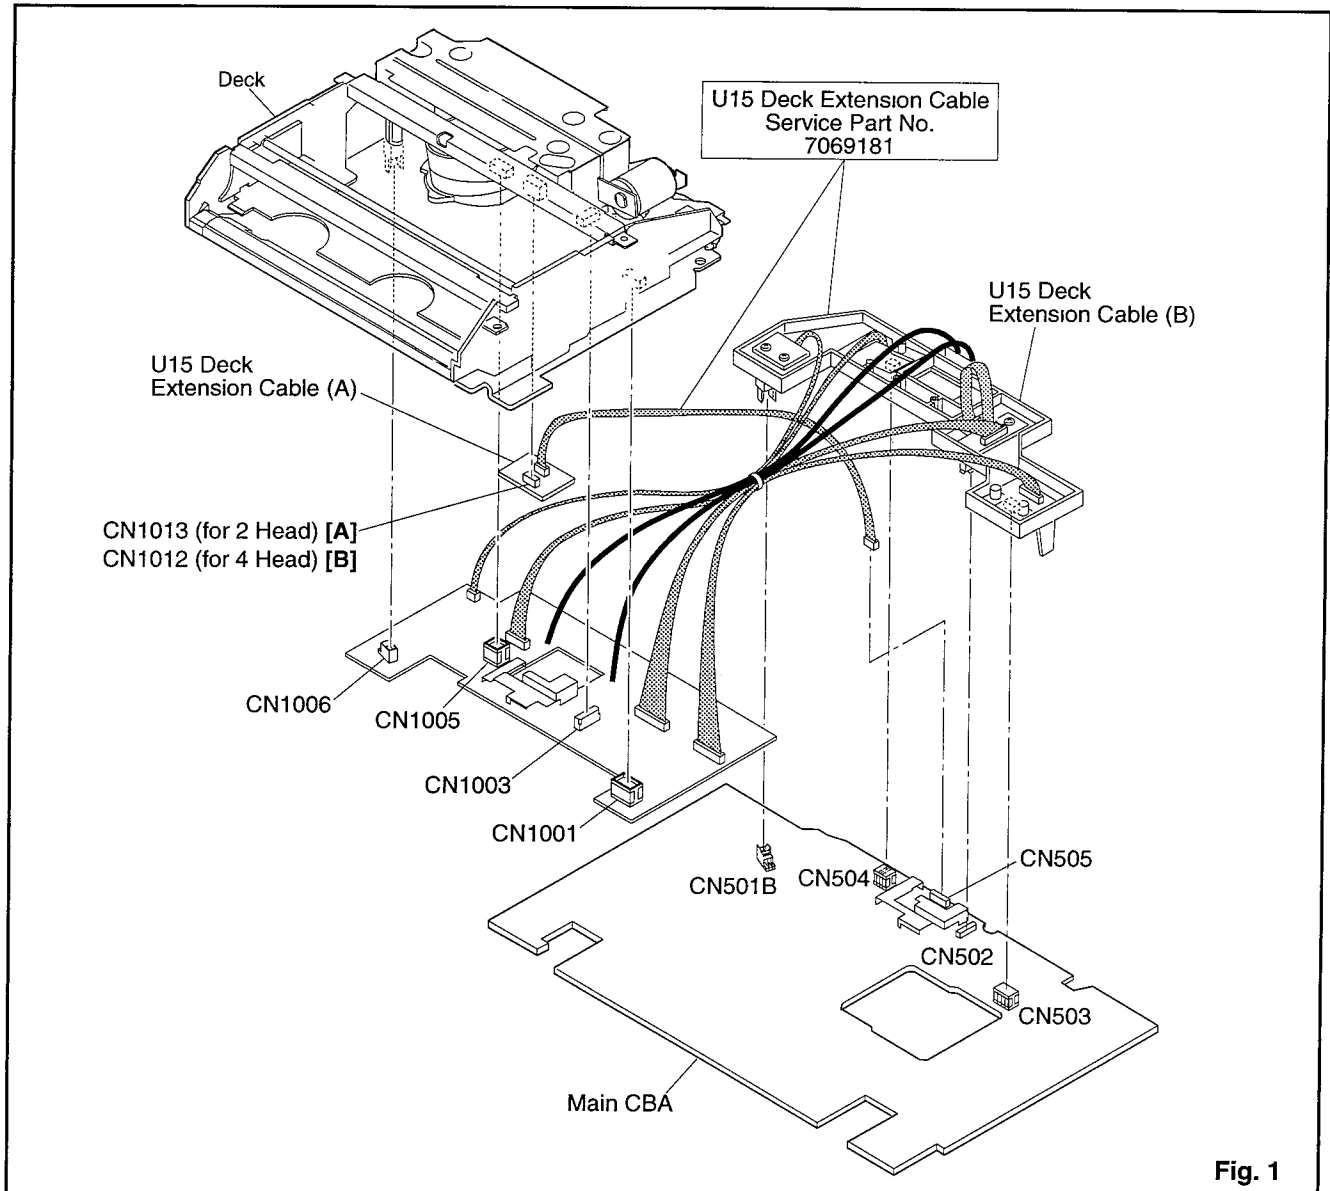

Fig. 1
- (1) Remove the Deck Mechanism Assembly. If needed, remove the Main CBA from the chassis. Refer to "Disassembly Instructions" on pg. 1-6-1.
- (2) Connect Main CBA and Deck with U15 Deck Extension Cable (A) as shown in Fig. 1. And connect Main CBA and Deck with U15 Deck Extension Cable (B) as shown in Fig. 1.